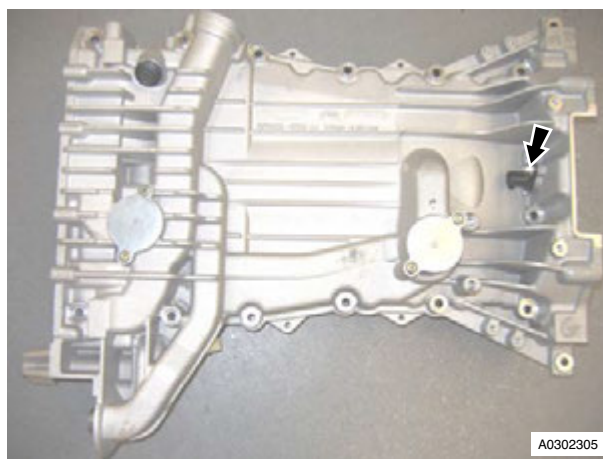

Figure 1
2. Remove bolt that attach the crankshaft timing sensor, remove sensor (refer to Figure 1).